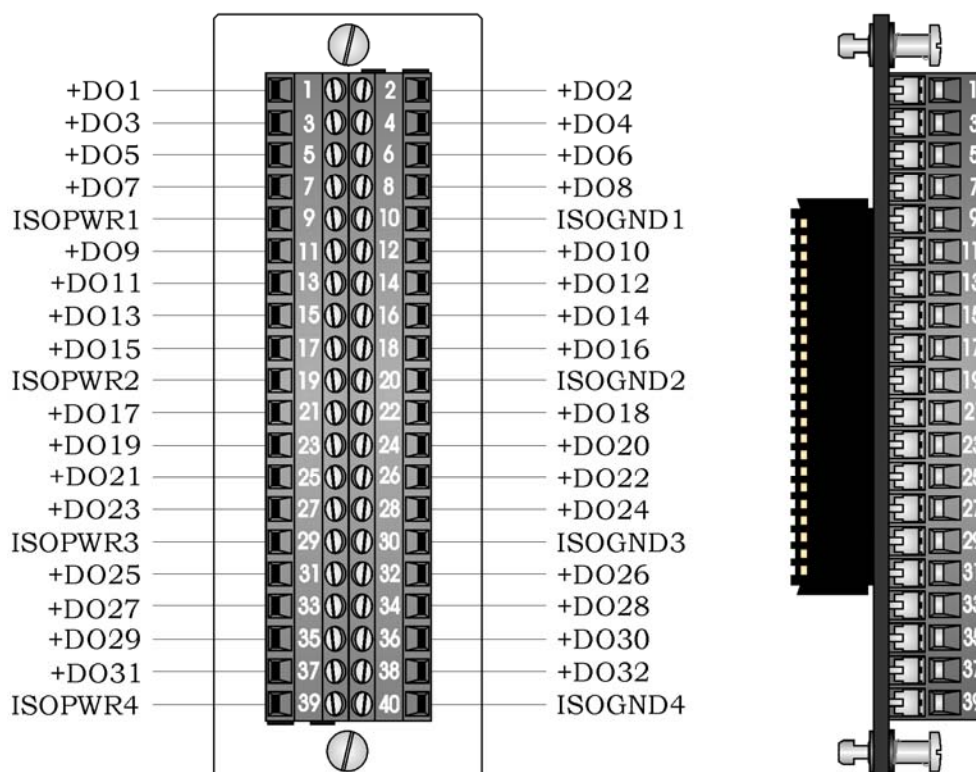
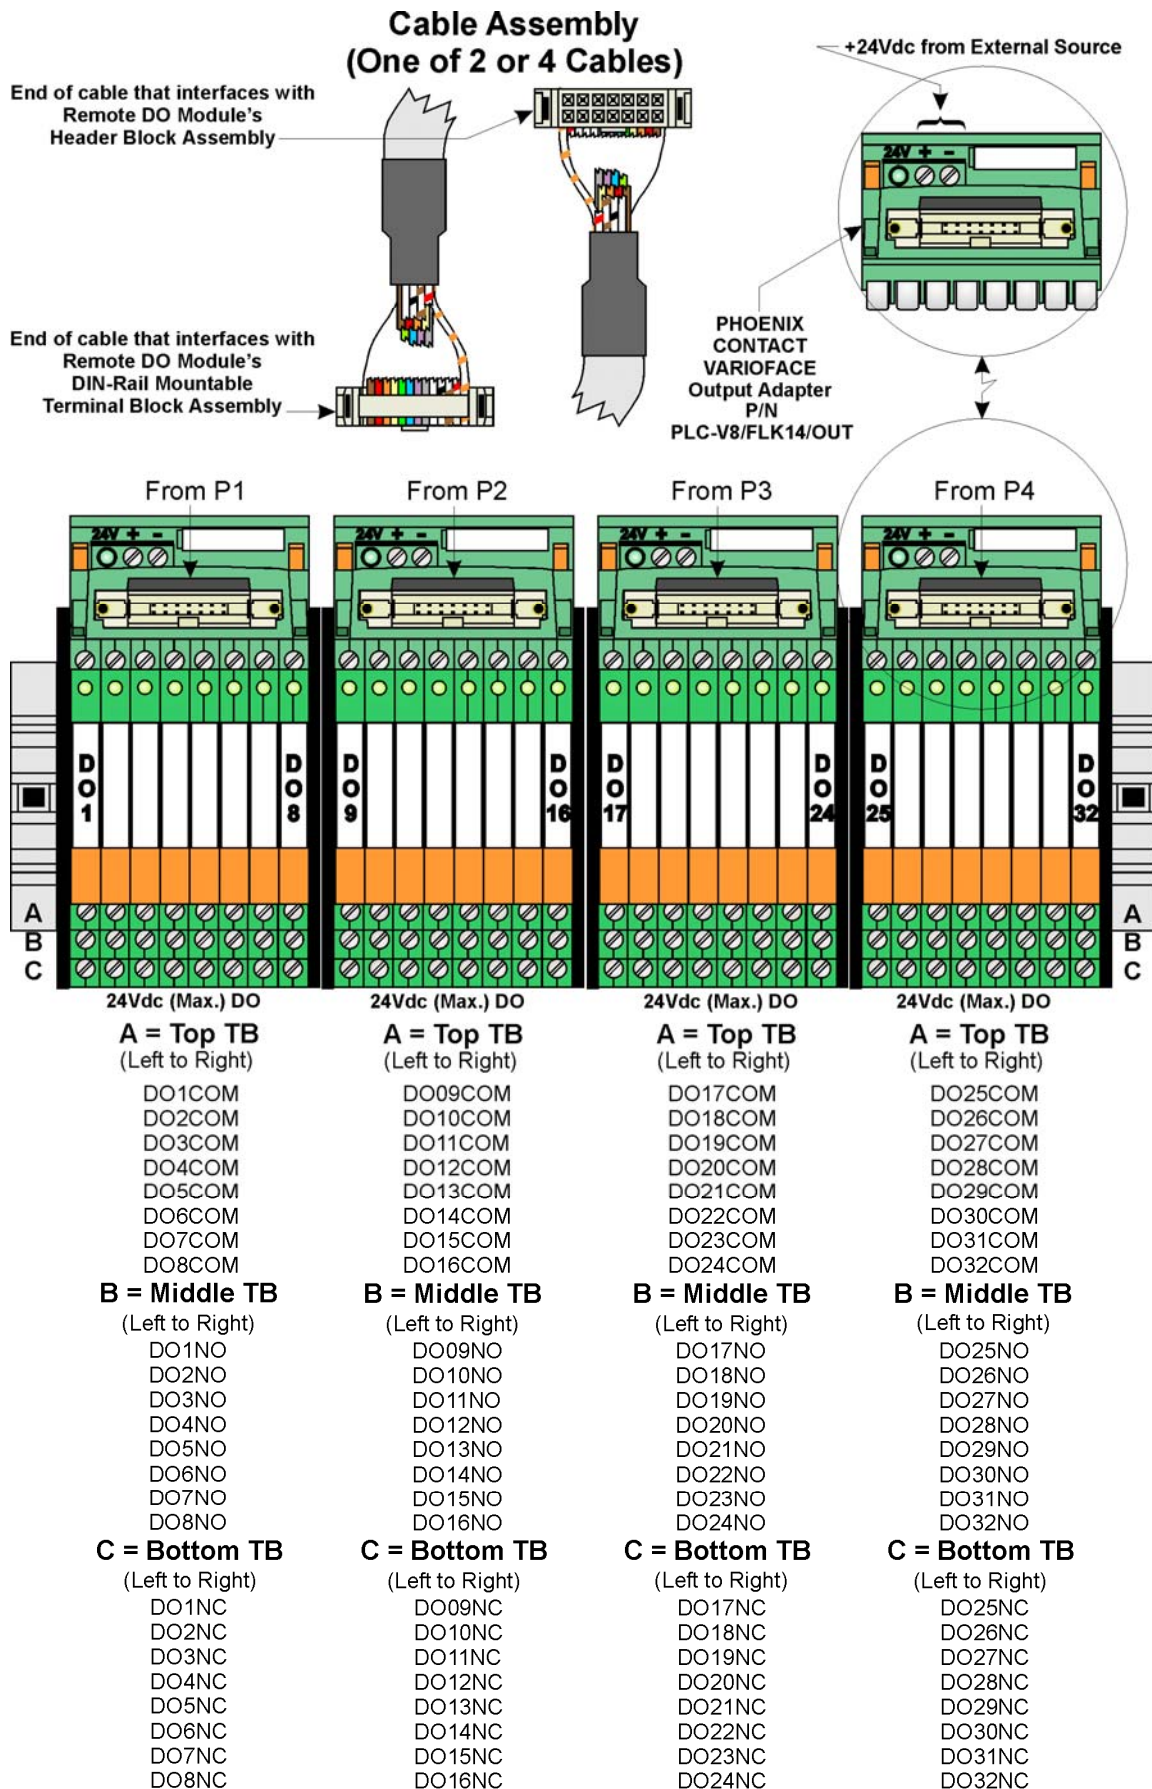

Figure 2-15 - Local Terminal Block Assembly Assignments
Figure 2-18 - Remote DIN-Rail Mountable Terminal Block Assembly Assignments for Relay Isolated 24Vdc DO Operation
2.3.2.5 Digital Outputs (see Figures 2-15, 2-16, 2-17 & 2-18)
Field wiring assignments associated with the locally terminated DORS Modules and remotely terminated DORS Modules are provided in Figures 2-15 and 2-17 respectively. A special remote termination module with built-in discrete relay modules is also available (see Figure 2-18).